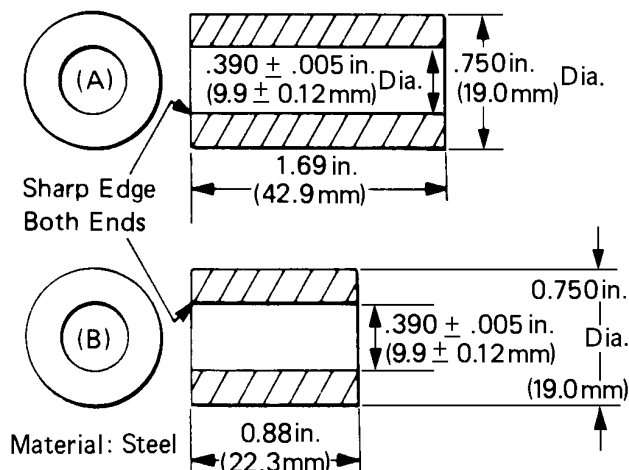

FIGURE 6-6. GRIP SPACE AND INSTALLATION SLEEVES
3. Place sleeve (A, Figure 6-6) over return pin, lower arbor and fully compress spring (indicator pointer will stop moving).